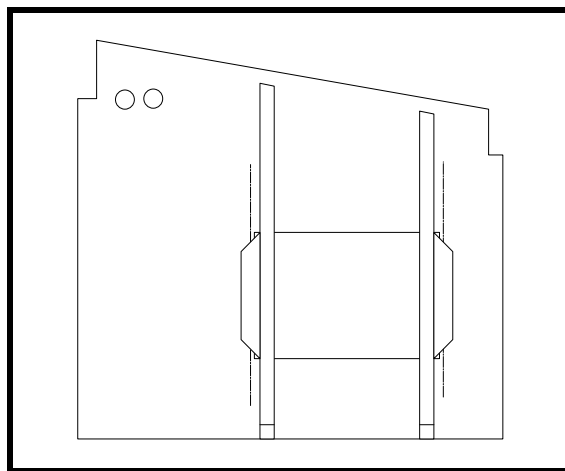

Figure 34
- ❑ Make two 20x15 spruce strips as shown in Figure 34. These will be for the hold-down bolts and channel-nuts. Do not install the blocks at this time since they will interfere with the installation of the floor braces which go to the lower side longerons.